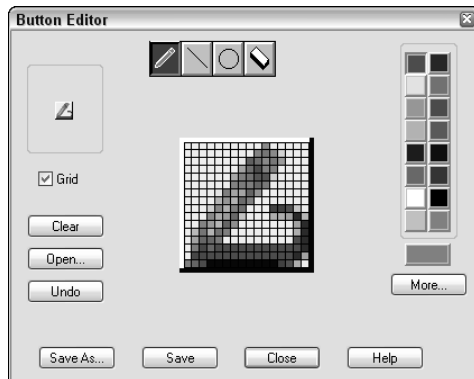

Figure 29-12: The new button
13. You want to change the button so that it looks as if a zero-width polyline is being changed to a wider polyline because that's what the macro does. Click the red color. Choose the pencil tool (by default, it is already chosen). Click Grid to help you work. Click (or drag) the point of the pencil tool in each box, using Figure 29-12 as a guide. (Figure 29-12 shows the button in black and white.) When you're done, choose Save and then Close.